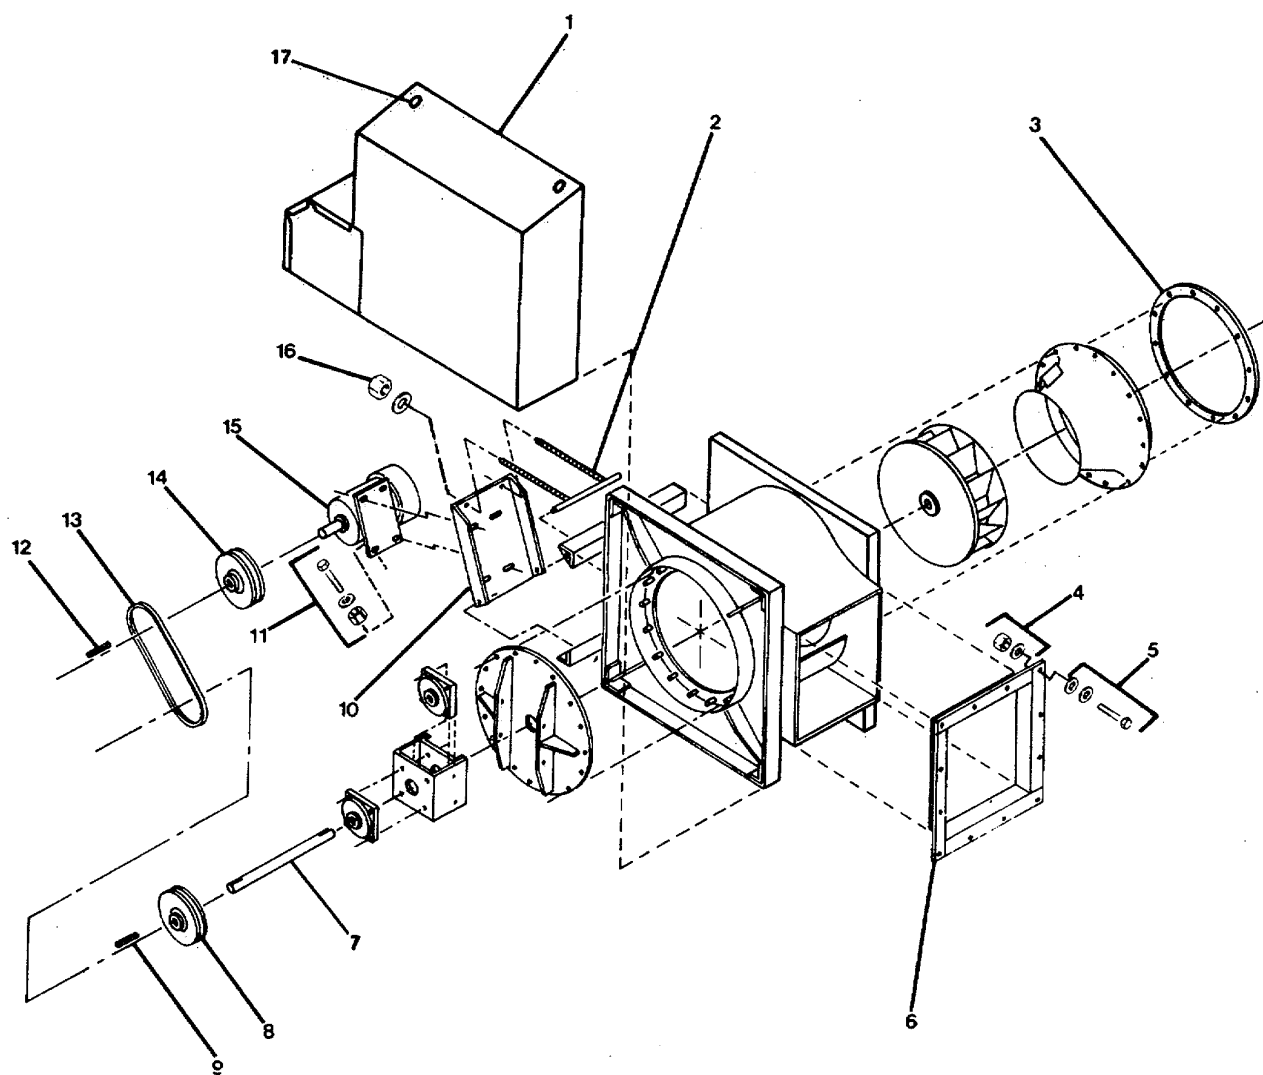

Figure 2-21. Ventilating Fan (Exhaust Fans #4 and #6).
- 1 Position motor (15) on base plate (10) and install mounting bolt, nut and washer assemblies (11). Do not secure bolts until motor sheave (14) is installed and aligned.
- 2 Install key (12) and pulley (14) onto motor shaft with a hydraulic press.
- 3 Align motor pulley (14) with fan pulley (8).
- 4 Secure bolt, nut, and washer assemblies (11) firmly.
- 5 Install V-belt (13) (REPAIR, step b. above).
- (1) Remove electric motor from fan (REPAIR, step d., above).
- (2) The procedures for replacing motor bearings are the same as those for Exhaust Fan #3. Refer to REPAIR, steps b. through d., paragraph 2-29.
- (3) Install motor (REPAIR, step d., above).
- (4) Connect electrical wiring to proper terminals on motor (15, FIGURE 2-21).